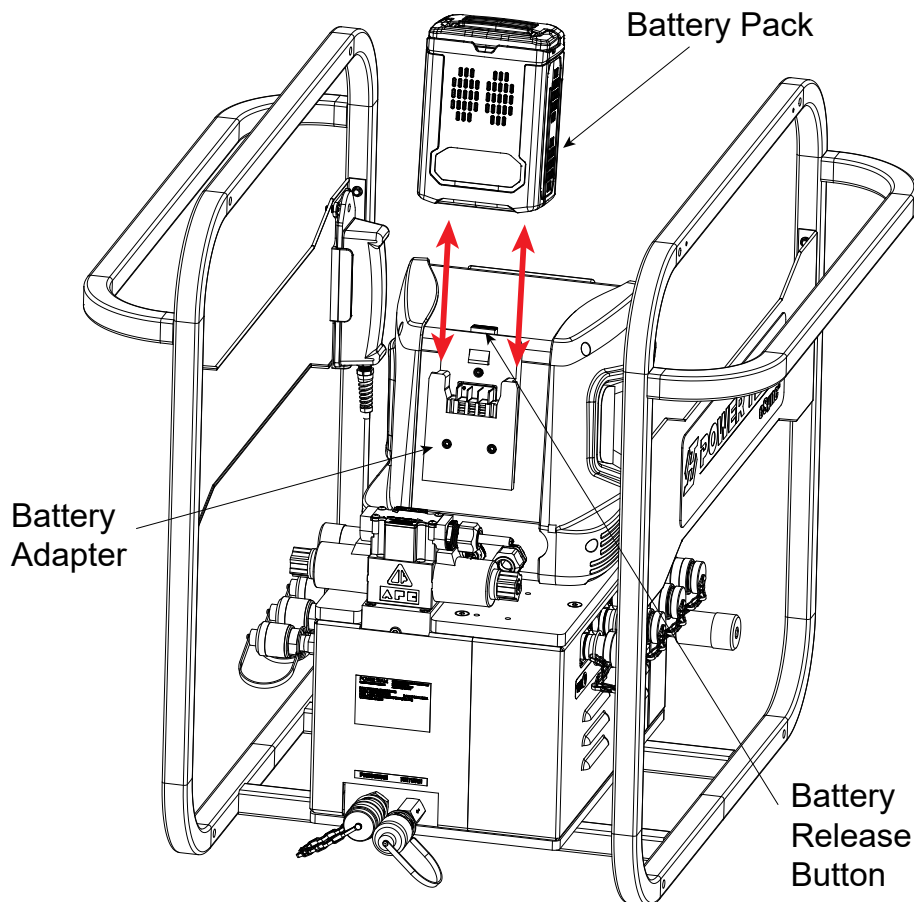

Fig. 10: eSync Battery Pack Installation
- Align the ribs on the battery pack with the battery adapter and gently push the battery pack into the battery adapter until you hear a "click," ensuring it is fully seated and secure (see figure 10).